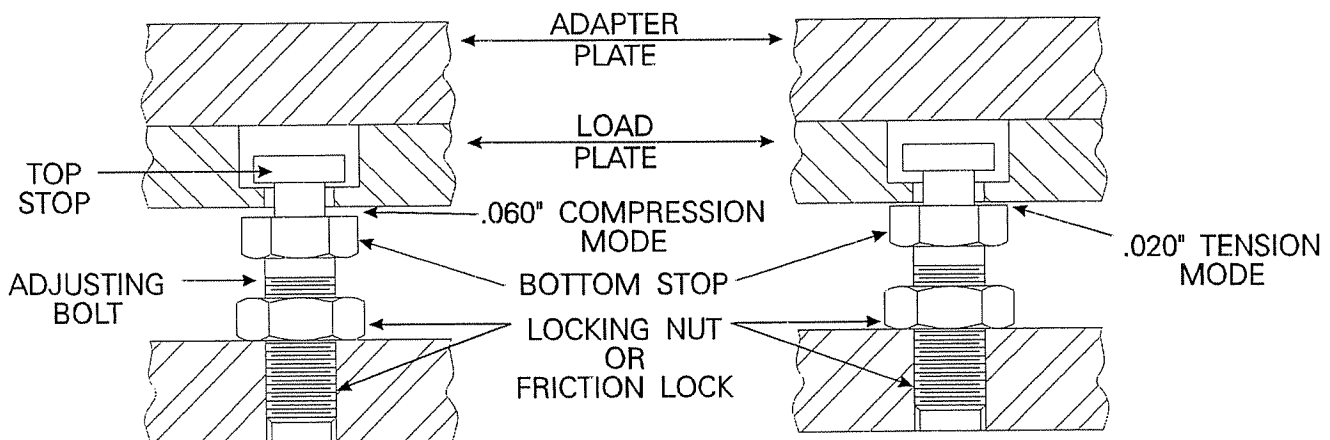

Figure 5
2. Using an open end wrench and a dial indicator or feeler gauge, adjust the Mechanical Stop for the required clearance between the Load Table and the Mechanical assembly (Refer to Figure 5 & 6). This is accomplished by having the Tare applied and the Load Table not in contact with the Mechanical Stop.